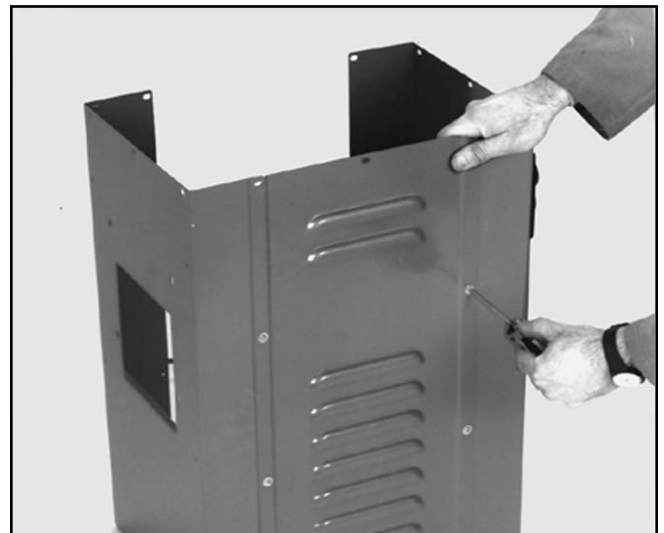

Figure 3. Attachment of the two end panels.
1. Begin by attaching the two ends to the front panel with the machine screws and washers provided. **See Figure 3.**